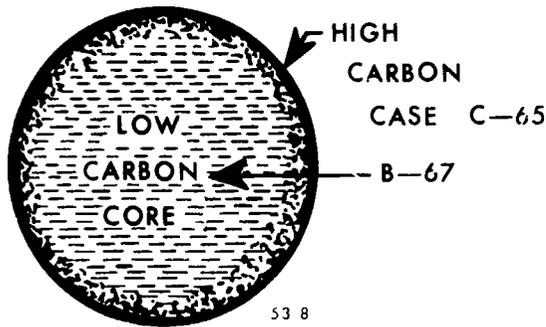

Figure 8. Case hardened steel.
b. Case hardening forms a hard surface over a tough core, as shown in figure 8. This is usually done by increasing the carbon content of the metal near its surface. Low carbon steels are often case hardened.